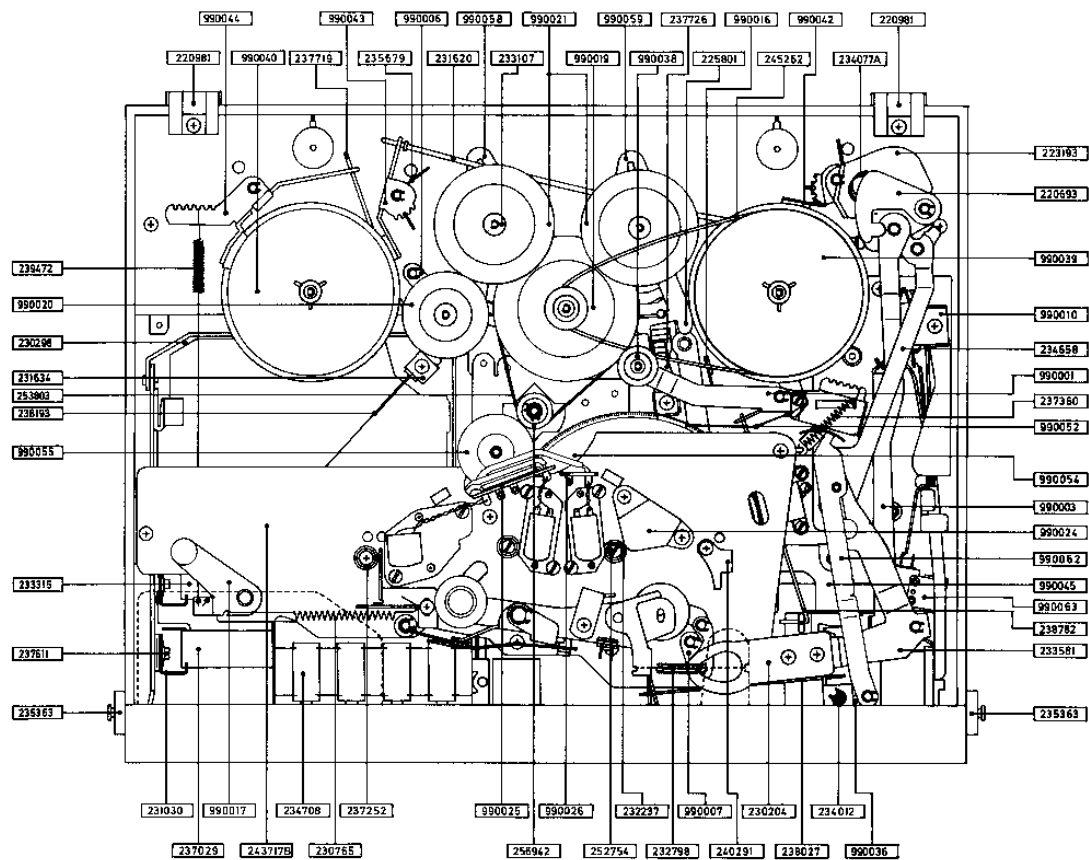

Fig. 3.1. Top view with covers removed.
**Note:** In units with serial number above 2 305 225 the lower microswitch is omitted and another microswitch (990063) is introduced (ref. fig. 3.1).